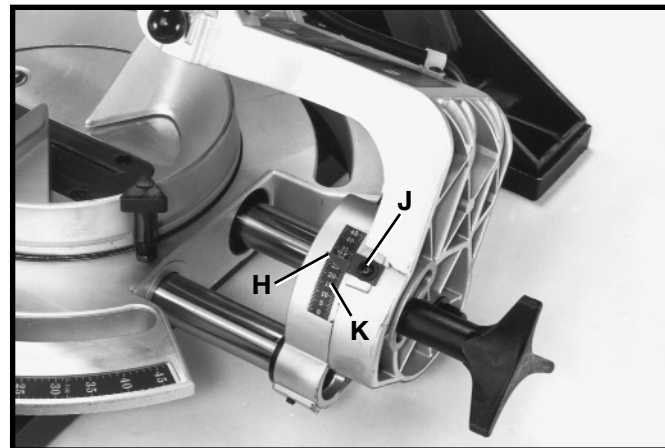

Fig. 46
5. When you are certain blade is 90 degrees to table, loosen screw (J) Fig. 46, and adjust pointer (H) to line up with the 0 degree mark on bevel scale (K).